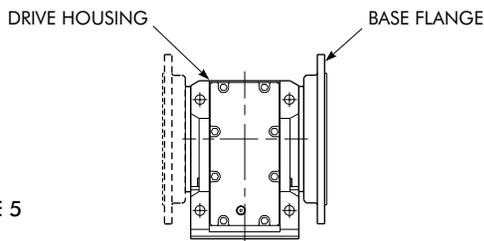

FIGURE 5
3. Assemble output flange to drive (see Figure 5) and secure using the fasteners furnished. Torque fasteners to the value shown in Table 4, Page 5 — Tightening Torques.